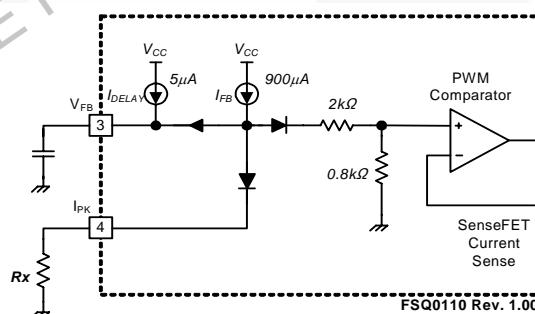

Figure 18. Peak Current Limit Adjustment
7. Adjusting Peak Current Limit: As shown in Figure 18, a combined 2.3kΩ internal resistance is connected to the non-inverting lead on the PWM comparator. An external resistance of Rx on the current limit pin forms a parallel resistance with the 2.8kΩ when the internal diodes are biased by the main current source of 900uA.